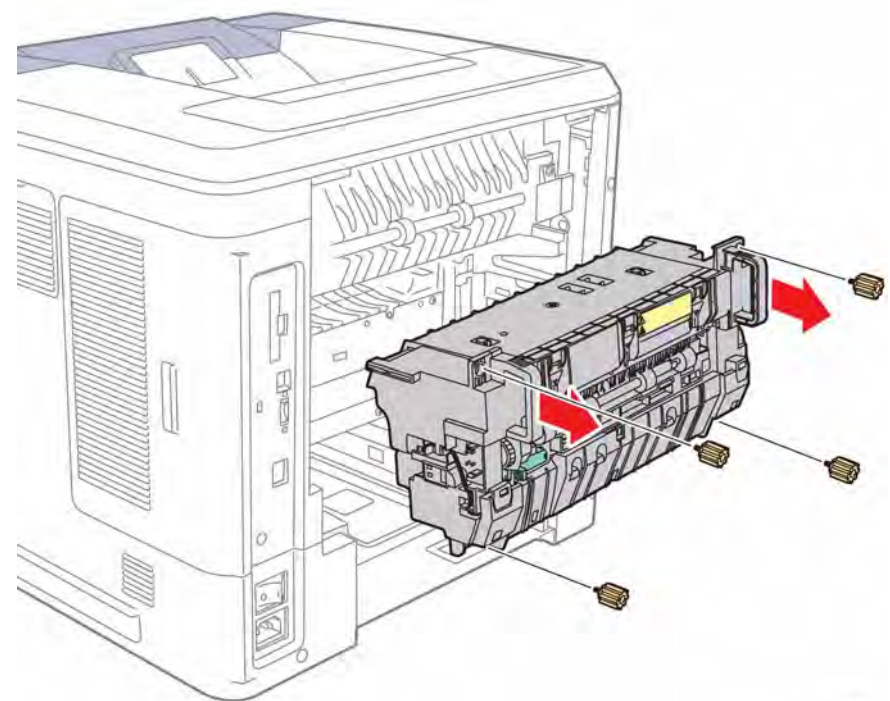

Figure 1 Remove the Fuser
3. Hold the handles and slide the Fuser from the chassis, Figure 1.